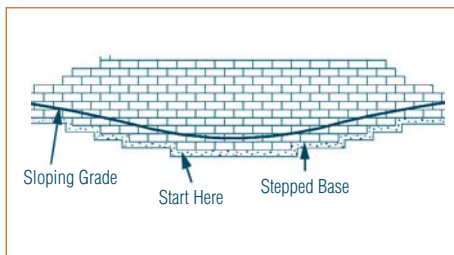

Figure 2: Start Wall at Lowest Elevation
- Walls built on a sloping grade will require a stepped base (Figure 2).
- Begin at the lowest wall elevation (Figure 2).